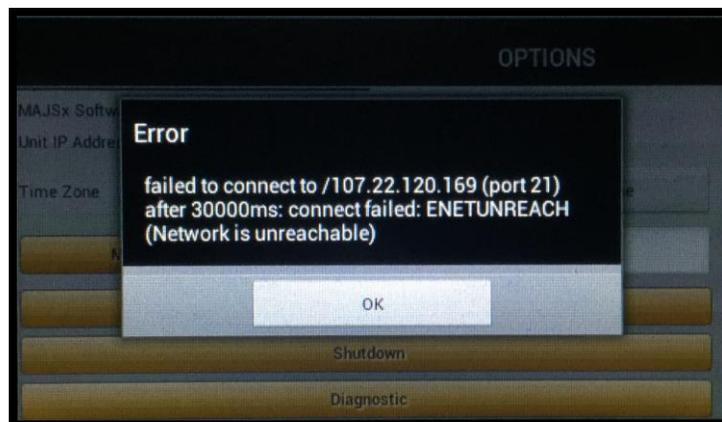

Figure 9
- i. Should the MAJSx not be connected to a Network an “Error” message will be displayed. Press the **OK** button to clear the error message and connect a network cable and repeat the process. - See Figure 9
- i. Select the **Check USB Update** button. Should the USB “stick” not be recognized by the MAJSx an “Error” message will be displayed (See Figure 9). Press the **OK** button to clear the error message, de-energize and re-energize the MAJSx and repeat the process.